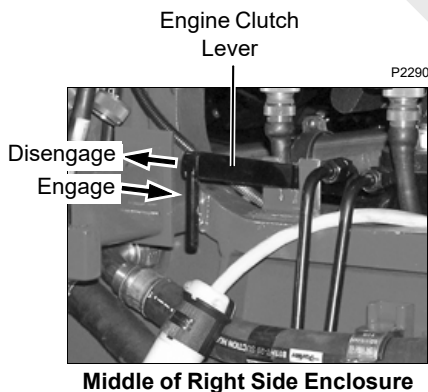

FIGURE 3-18
4. If necessary in cold weather, disengage engine clutch as shown in Figure 3-18. This step will disconnect the pumps from the engine and aid in cold weather startup.